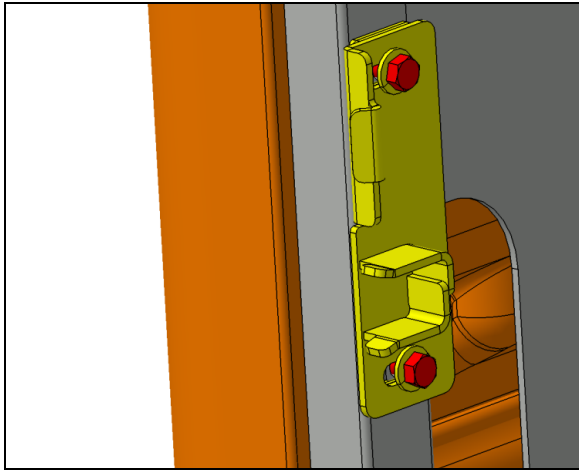

FIGURE 132
14. Perform the transversal adjustment by moving the strike plate using the slotted holes (FIGURE 132).